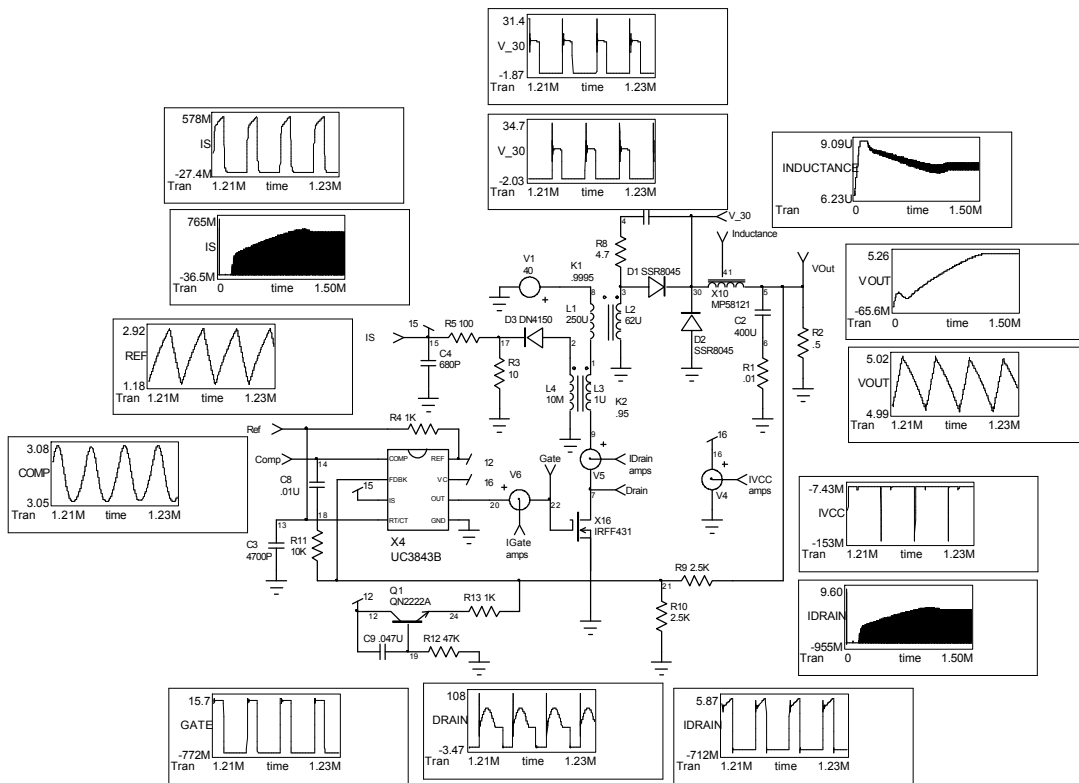

Figure 5.1: Application test circuit for a 50W Forward Converter.
As an example, a 50W forward converter circuit using UC3843B PWM and Magnetics MPP58121 core models was constructed and simulated. Two waveforms (Node V(30)) are shown in the figure 5.1. The bottom V(30) waveform uses loose coupling (transformer coupling coefficient $K=.95$) while the bottom uses tighter coupling ($K=.9999$). Note the increased ringing with loose coupling. The start-up transient waveform (VOUT, top right) is shown along with a close-up view of the output ripple. The INDUCTANCE waveform shows the inductance variation of the MPP core. The MOSFETs switching characteristics, operating current into VCC, under voltage lockout threshold, and propagation delay through the PWM can also be examined.